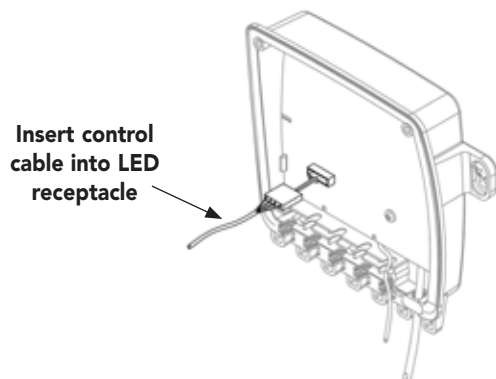

Figure 17
2. Insert the free end of the control cable into the control box's LED receptacle (Figure 17).